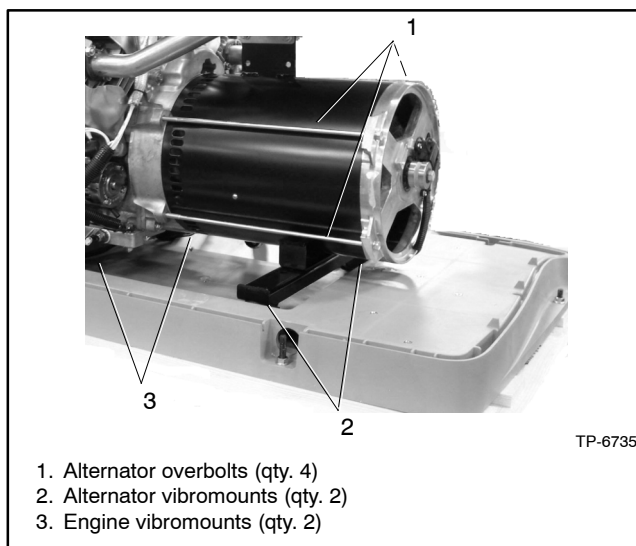

Figure 6-23 Vibromounts and Overbolts
- b. Lower the end of the generator set and reinstall the screws and washers that secure the vibromounts to the skid. Tighten all four vibromounts (for the alternator and engine) to 5.4 Nm (4 ft. lbs.). Do not overtighten. See Figure 6-23.
5. Tighten the four alternator assembly overbolts to 14.9 Nm (11 ft. lb.). See Figure 6-23.